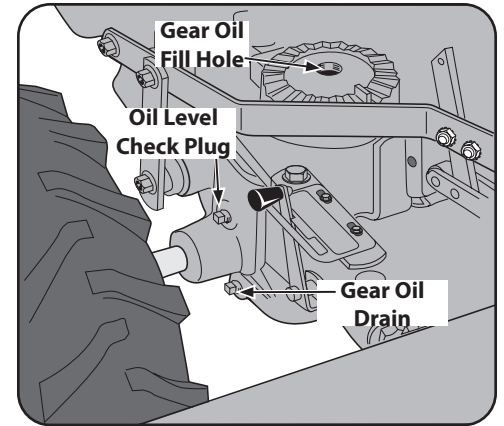

Figure 5-8
2. Using a 3/4" wrench (or socket), remove the bolt securing the handlebar base to the top of the transmission (prop the handlebars first to prevent them from falling). Then, unplug the Forward Interlock wire harness receptacle at the bottom of the handlebars. Set the handlebar base and bolt aside on a clean surface. The bolt hole in the top of the transmission is the gear oil fill hole. See Figure 5-8.
3. Slowly pour gear oil through a clean funnel into the transmission. Stop when gear oil begins to flow from the oil level check hole on the left side of the transmission. See Figure 5-8.
1. Place a shallow pan under the transmission gear oil drain plug. See Figure 5-8.